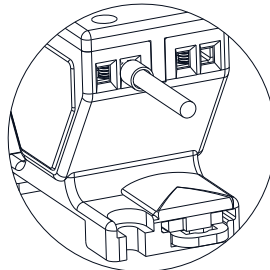
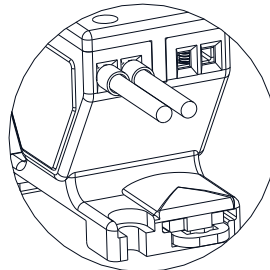

FIGURE1
FIGURE2
- The wire should be clamped pretreatment by the standard compression ferrule before connected to the terminals when wiring(SEE FIGURE 1). If need to connect two wires, cross-sectional area of the wire should be the same, And should be clamped pretreatment by the standard compression ferrule respectively(SEE FIGURE 2).